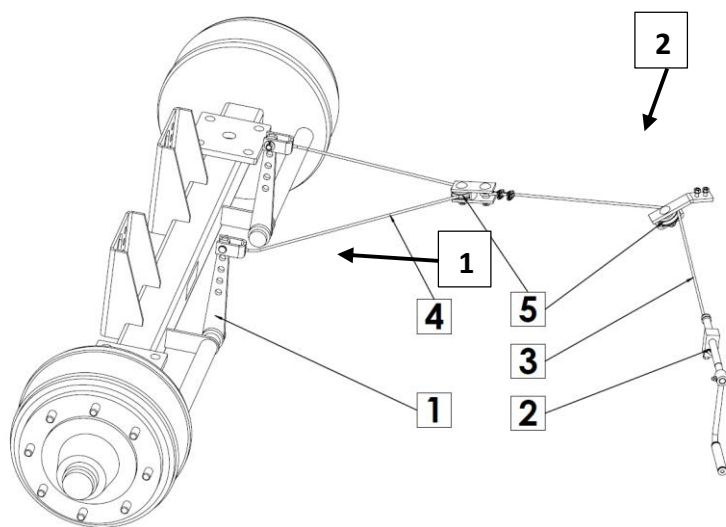

Fig. 11. Parking brake
(1) the spreader lever, (2) crank mechanism, (3) string I, (4) string II, (5) pulley
The parking brake is used to immobilize the trailer when stationary. The brake crank mechanism 2 (fig.11), welded to the right side of the side-member of the lower frame. Steel cable 3, led by the rollers 4, is connected to the levers of the rear spreader driving axle (1) with the crank mechanism. Tightening the string (rotation of the crank mechanism in the direction of the clock's rotation) causes a shift of the lever spreader that, when parting the brake linkage, immobilize the trailer.